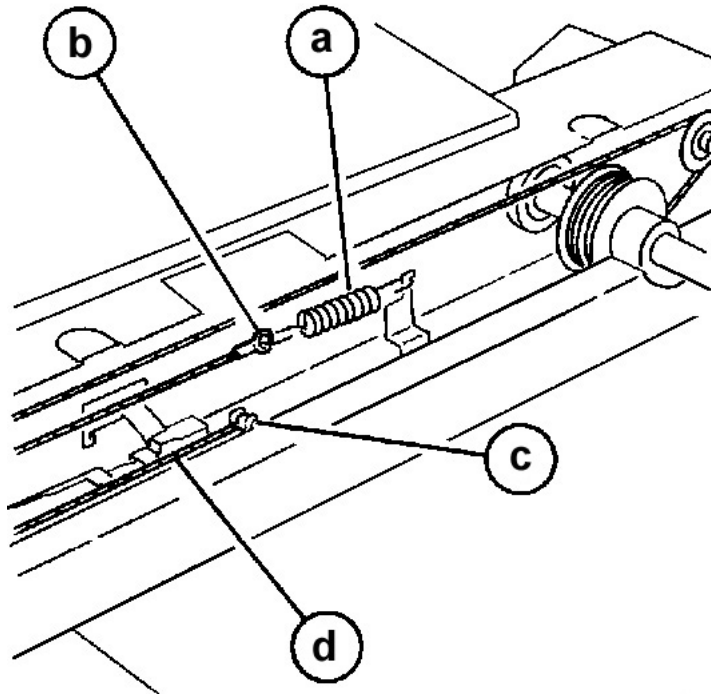

Figure 4 Removing the Carriage Cable
13. Remove the Carriage Cable. Figure 4